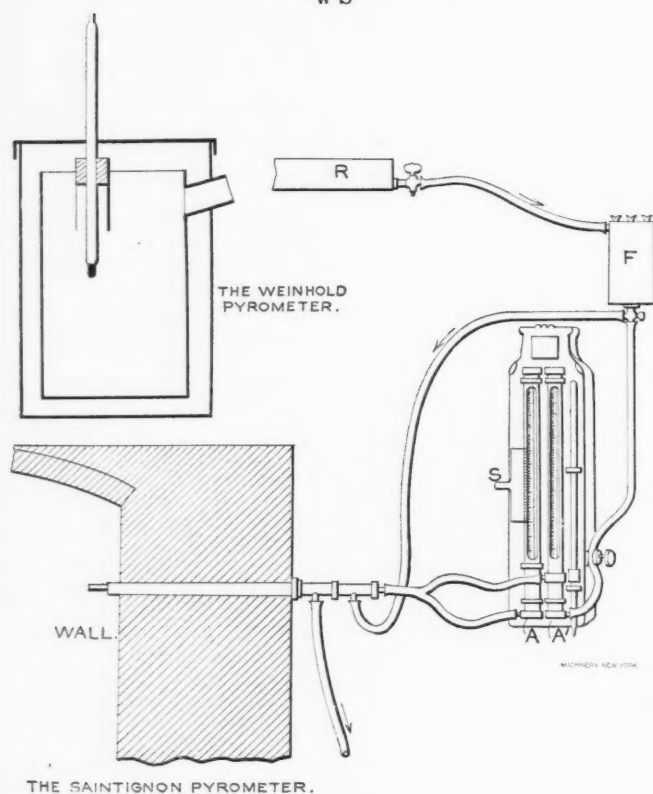

FIG. 2.
Saintignon's pyrometer consists of two thermometers (AA), Fig. 2, connected to the main tube with a hose. Water with a head of 10 feet from reservoir (R) passes through filter (F) and then floods the thermometer bulbs (AA). The parts are so planned that 25 deg. raise in furnace heat produces 1 deg. at the thermometers. A movable scale (S) is provided, which is properly graduated.